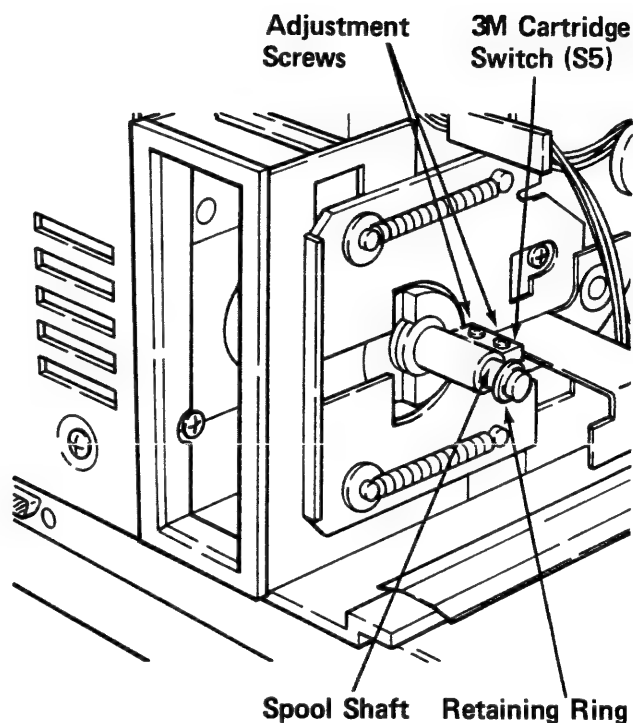

Figure 3-10.4A
9. Lay a 2.0 mm Ruler on the end of the Spool Shaft next to the Retaining Ring (Figure 3-10.4A).
1. Loosen the Adjustment Screws (Figure 3-10.4A) and reposition the Cartridge Switch (S5) as required.